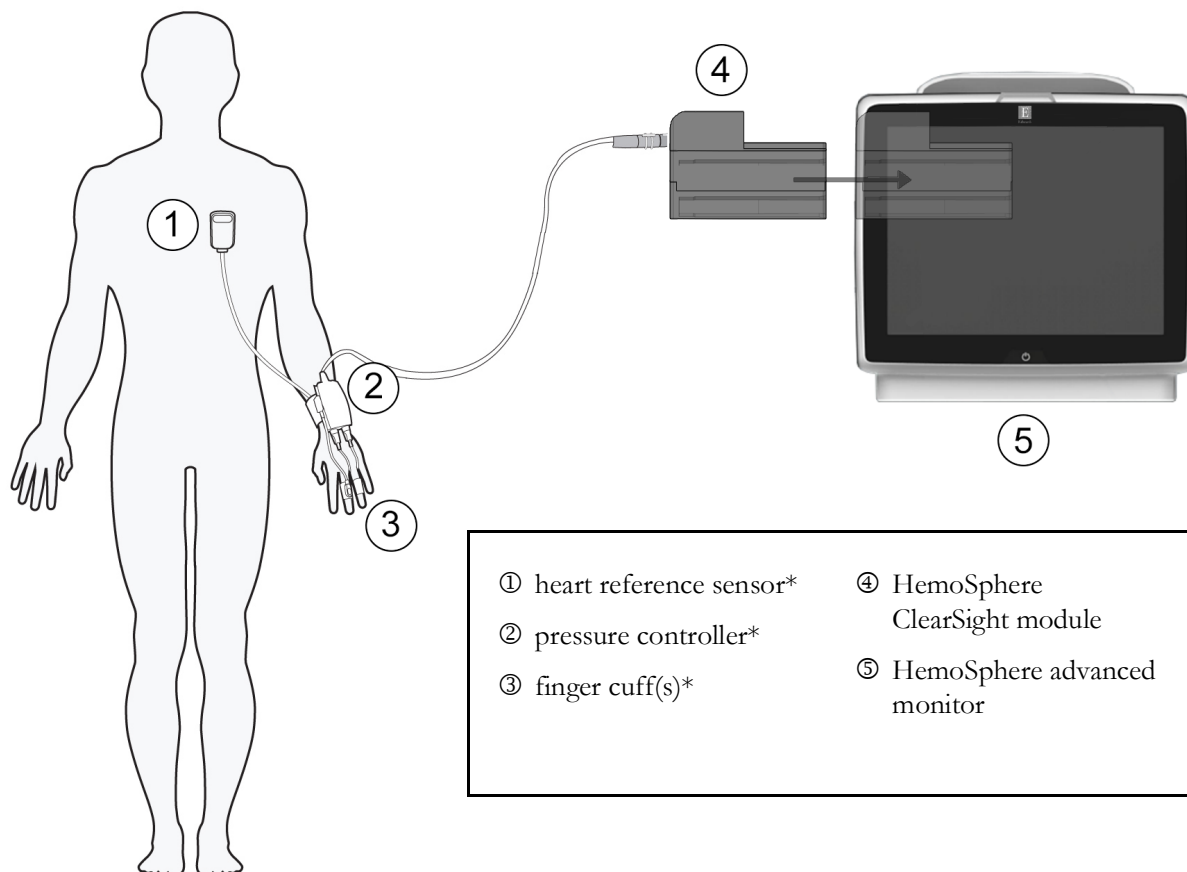

Figure 11-1 HemoSphere noninvasive system connection overview
The HemoSphere noninvasive system is composed of the HemoSphere advanced monitor with ClearSight module and connected pressure controller, heart reference sensor, and compatible Edwards finger cuff(s). See system connections in figure 11-1 on page 180. Accurate measurement of the patient's blood pressure and key hemodynamic parameters is based on the Volume Clamp method, Physiocal method and ClearSight algorithm.
The HemoSphere ClearSight module is compatible with all approved Edwards finger cuffs. See figure 11-1 for an overview of the HemoSphere noninvasive system connections.
NOTE Components indicated by * figure 11-1 legend are APPLIED PARTS as defined in IEC 60601-1 that in normal use necessarily come into physical contact with the patient for the HemoSphere noninvasive system to perform its function.
- 3 Attach the pressure controller cable to the HemoSphere ClearSight module. (figure 11-1)